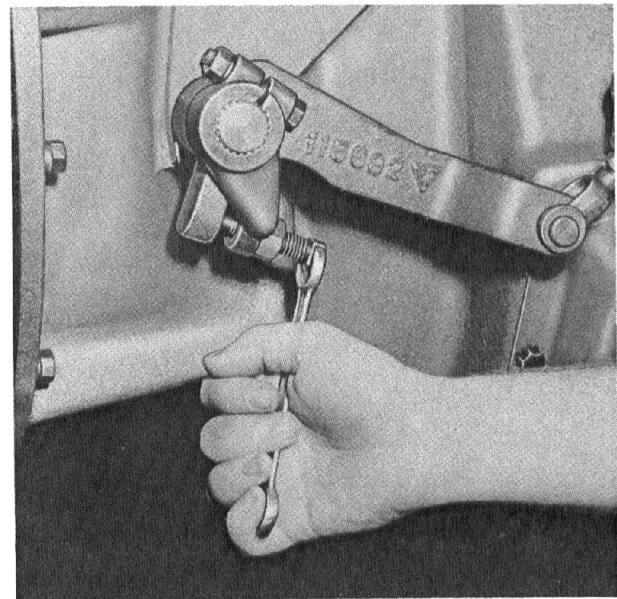

Fig. 30 - Adjusting Clutch Pedal Linkage.
(4) If inspection indicates clutch pedal 'free travel' is less than 1/2", immediate adjustment of the clutch pedal linkage should be made to restore proper 1/2" 'free travel,' Fig. 30. This 1/2" pedal 'free travel' normally results in 1/8" clearance between the clutch release levers and release bearing.
(5) If excessive free play is present in the clutch pedal linkage due to worn parts, the worn parts must be replaced. Excessive wear of the release linkage may give a false impression of the actual amount of release bearing clearance.